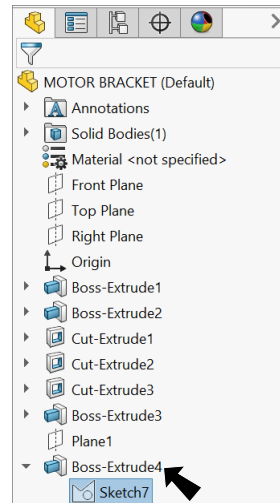

Fig. 63
Step 1. Expand **Boss-Extrude4** in the Feature Manager and click motor mount, **Sketch7** to select sketch, **Fig. 63**.